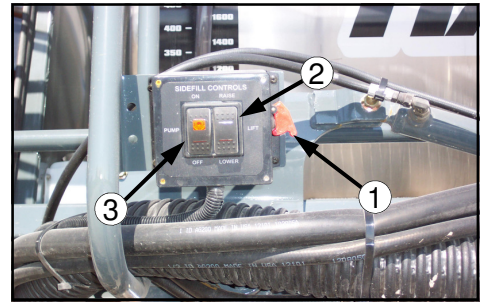

FIG 4.6D-1
**INDUCTOR OPERATION-** With the engine running and the parking brake set, flip the lock switch up (fig.4.6D-1,item 1). Lower the inductor assembly with the inductor control box switch (fig. 4.6D-1, item 2). If filling with the suck-on attachment, leave the engine running. If filling with the push-on attachment, turn the engine off.
The following fill and rinse scenarios refer to figure 4.6D-2 below.